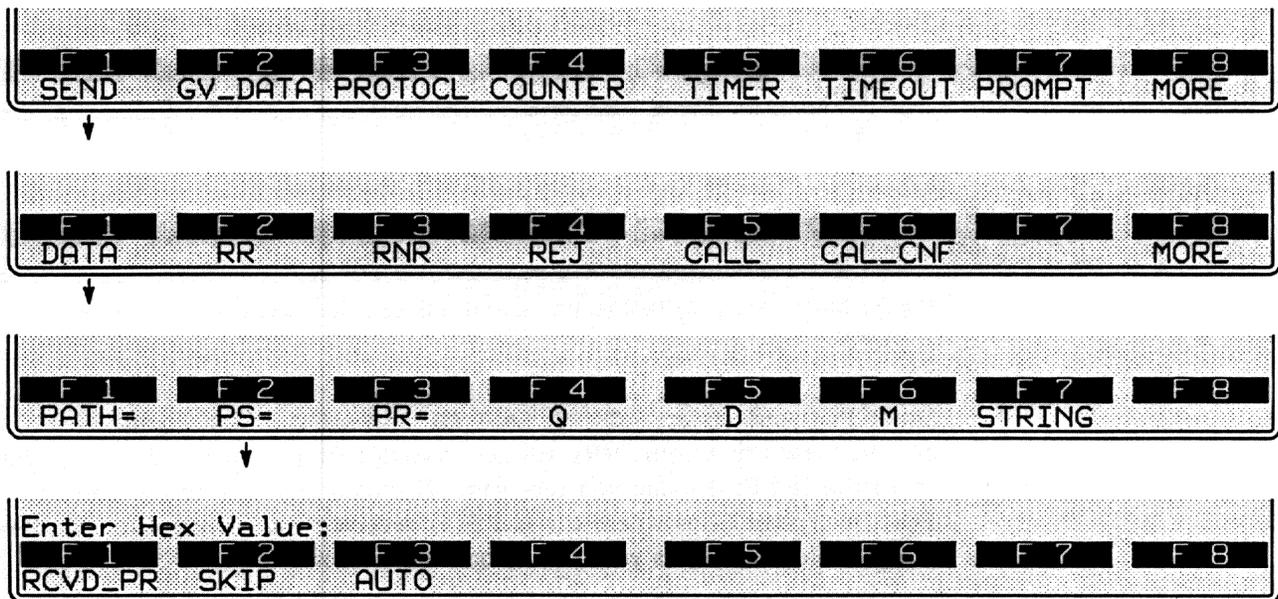

Figure 34-27 The P(S) field may be specified in a *SEND DATA* action.
7. *P(S)*. *P(S)* fields are transmitted in data packets only. (See the packet-field diagrams in Figure 34-6.) The softkeys that open below *PS=* are illustrated in Figure 34-27.